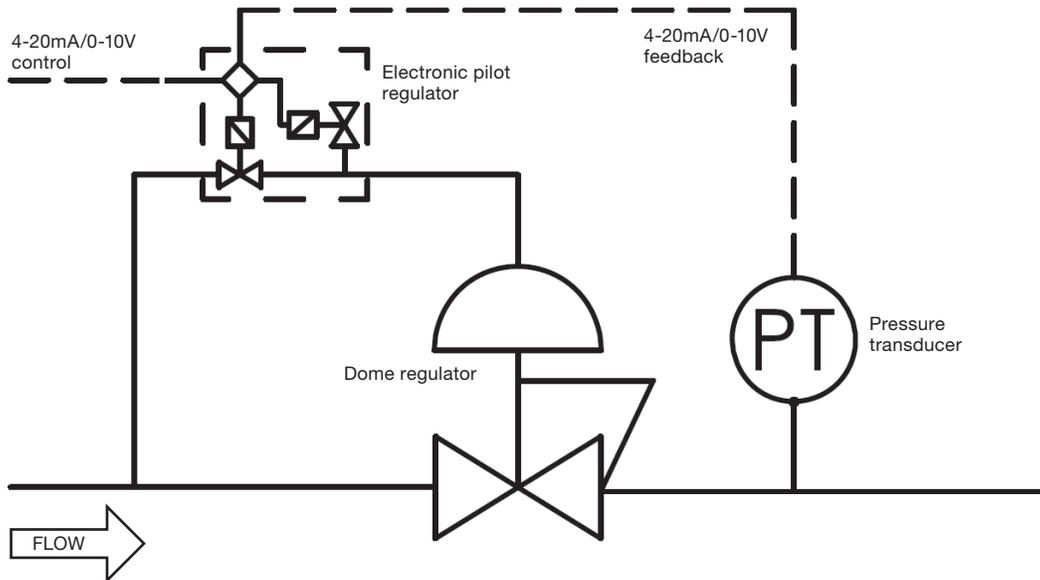

Figure 6
- **Electronic control.** In this setup an electronic pilot regulator, fed from the system pressure, is used in conjunction with a pressure transducer to directly control the dome pressure (Figure 6). The outlet pressure of the main regulator will be limited by the outlet pressure of the electronic regulator. This setup is not suitable for liquid applications.